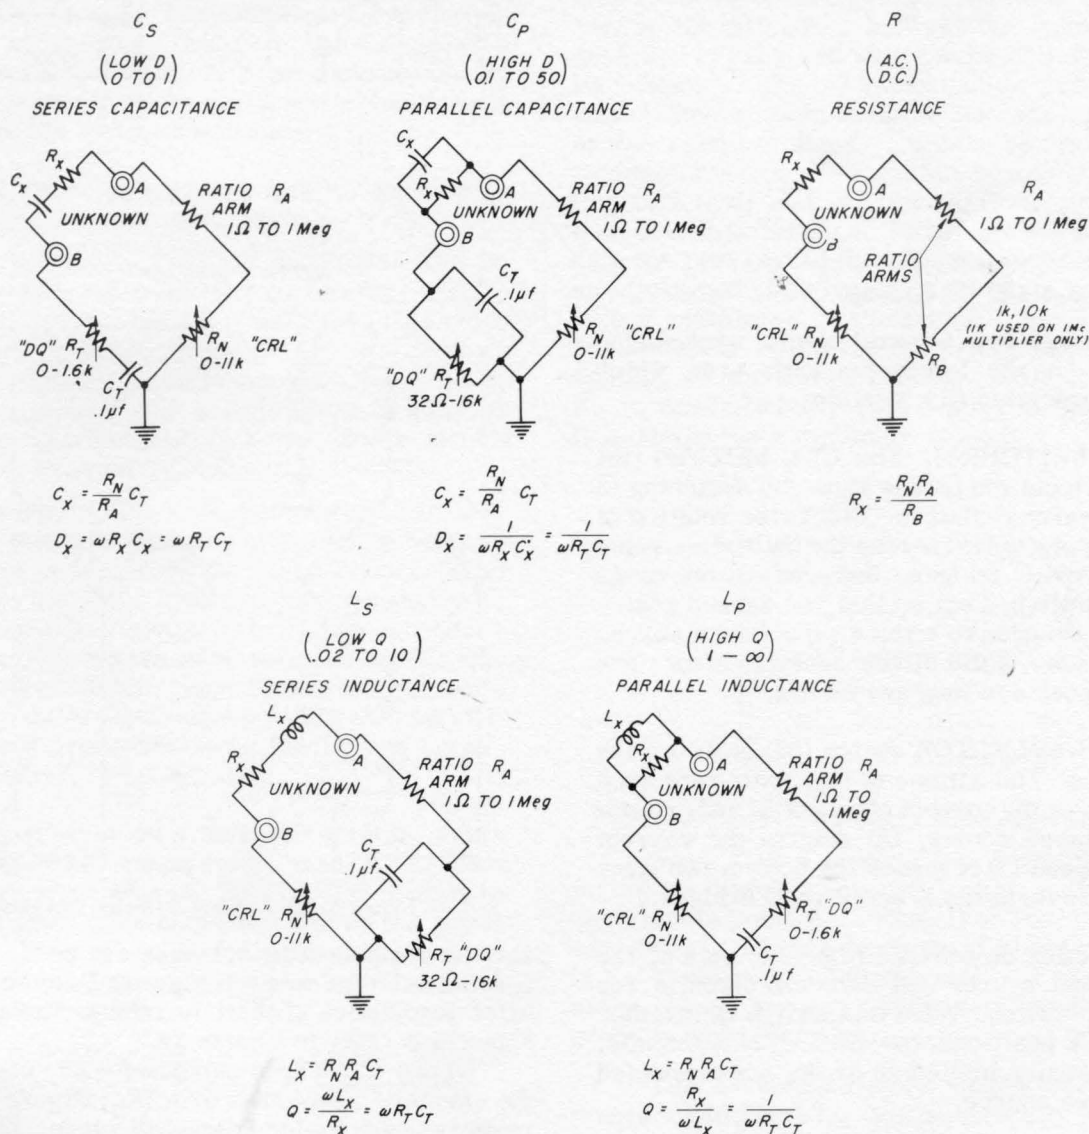
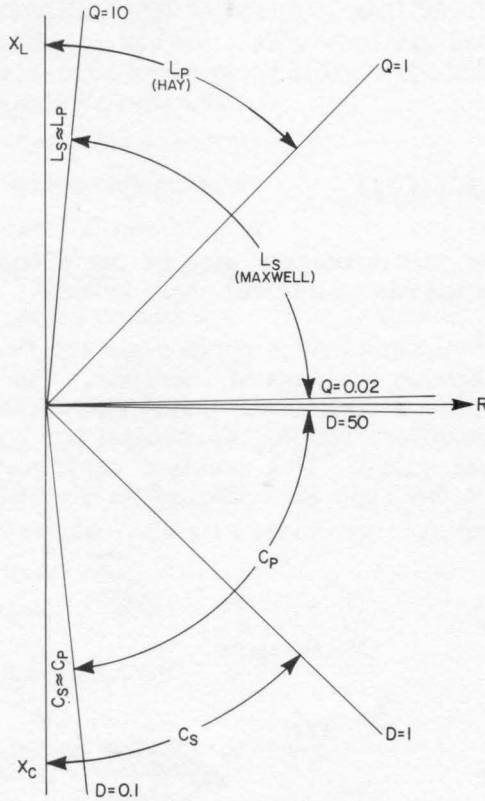

Figure 3. Bridge Circuits Used in Impedance Bridge.
Figure 4. DQ Coverage Chart.
2.1 GENERAL. Figure 3 shows the five bridge circuits used in the Type 1650-A Impedance Bridge, as well as the balance equations. Hays and Maxwell inductance bridges and series and parallel capacitance comparison bridges are used to provide wide coverage over the D and Q ranges, as shown in Figure 4. Full use of these wide ranges at low Q and high D values is achieved by means of an Orthonull® balancing mechanism (refer to paragraph 2.5). Both
**C2 and L1:** These components are used to make the standard resistance arm ( $R_b$ , Figure 3) appear resistive over a wide frequency range. This arm is shunted with considerable stray capacitance, which, without compensation, would cause a poor ac null